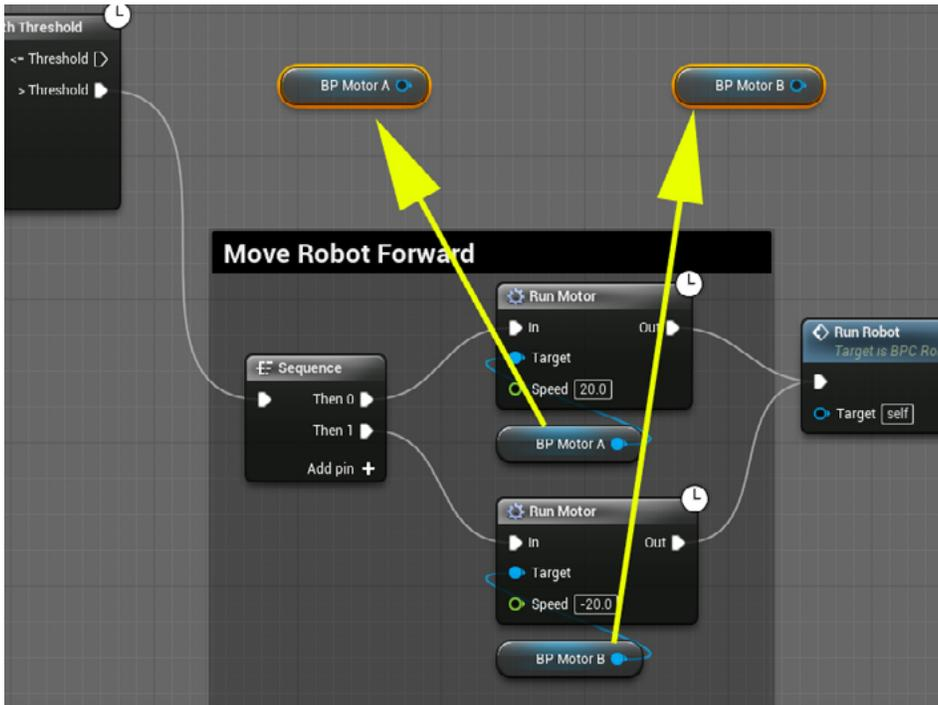

Figure 4-25
- **Right-click** and **Paste** the **BP_Motor_A** and **BP_Motor_B** reference nodes above the **Move Robot Forward** comment box. (see Figure 4-25)